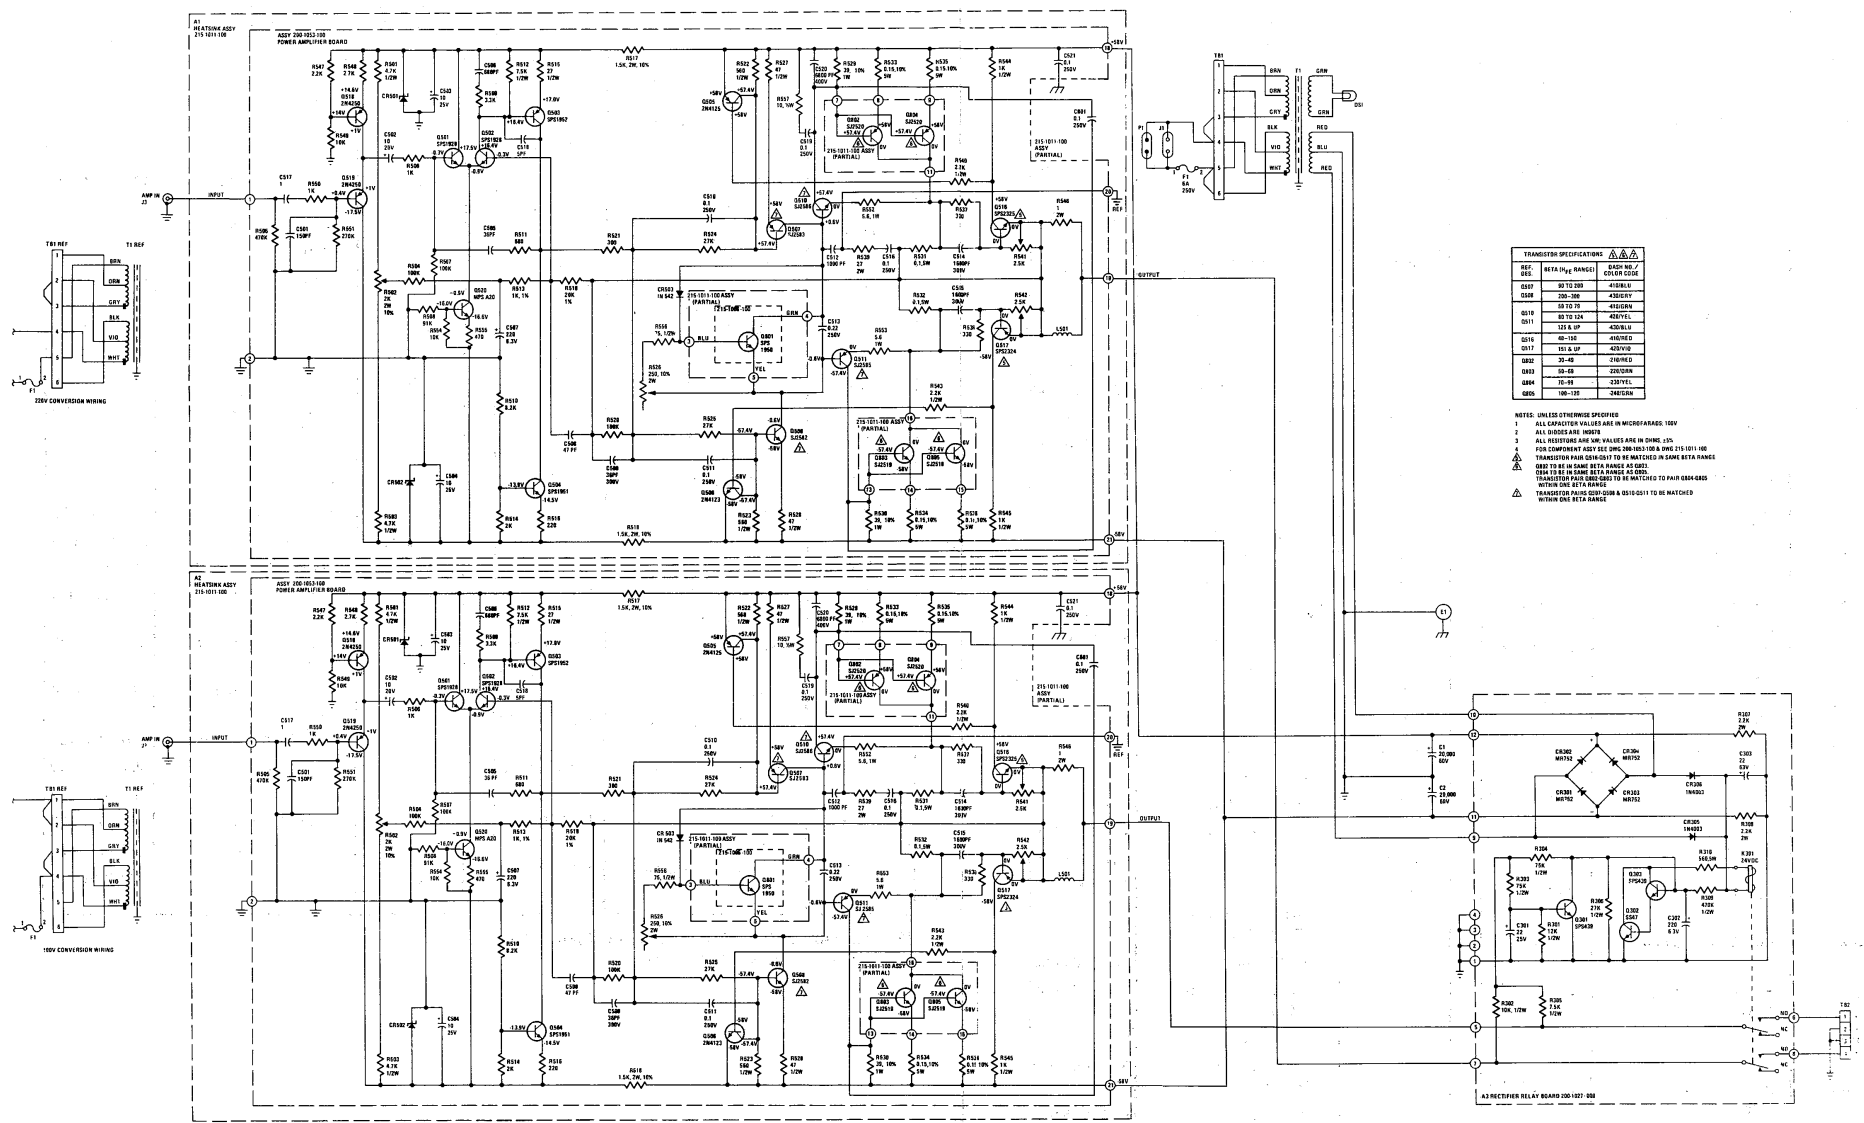

FIGURE 11. MODEL 240 SCHEMATIC
*For applicable dash number, see Transistor Specification Chart on unit Schematic (Figure 11).
Pages 20 and 21 — Replace Figure 11 (Model 240 Schematic) with Figure 11 contained herein.